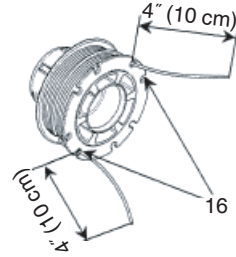

Fig. 23
(4) Push each line into the stopper holes (16), leaving the loose ends approx. 4" (10 cm) in length. (Fig. 23)